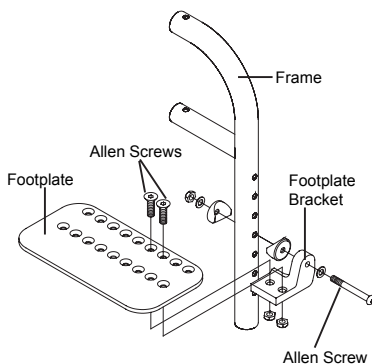

Figure 21
1. Remove the two Allen Screws and locknuts that secure the footplate to the angle adjustable footrest bracket. See Figure 21.